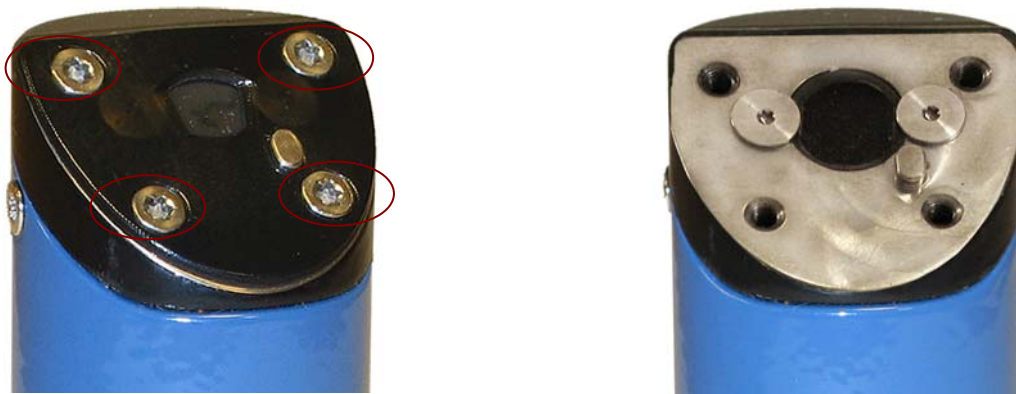

Figure 5-2 Removing the securing plate and change the sensing foil.
- The sensor foil is changed by unscrewing the 4 torx screws in the securing plate, refer Figure 5-2. Remove the securing plate and the old foil.
- The sensor foil is changed by unscrewing the 2 torx screws in the securing plate, refer Figure 5-2. Remove the securing plate and the old foil.